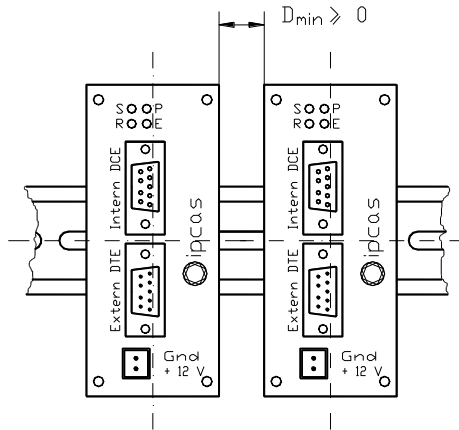

Fig. 2.4.1: Arrangement of TCT
The function of the Telecontrol Transformers is independent of their position. They can therefore be mounted in any desired position, fig. 2.4.1.
6. Push the circuit board back into the housing. Ensure that the correct mounting position is maintained (see figures 2.4.1 and 2.4.3).